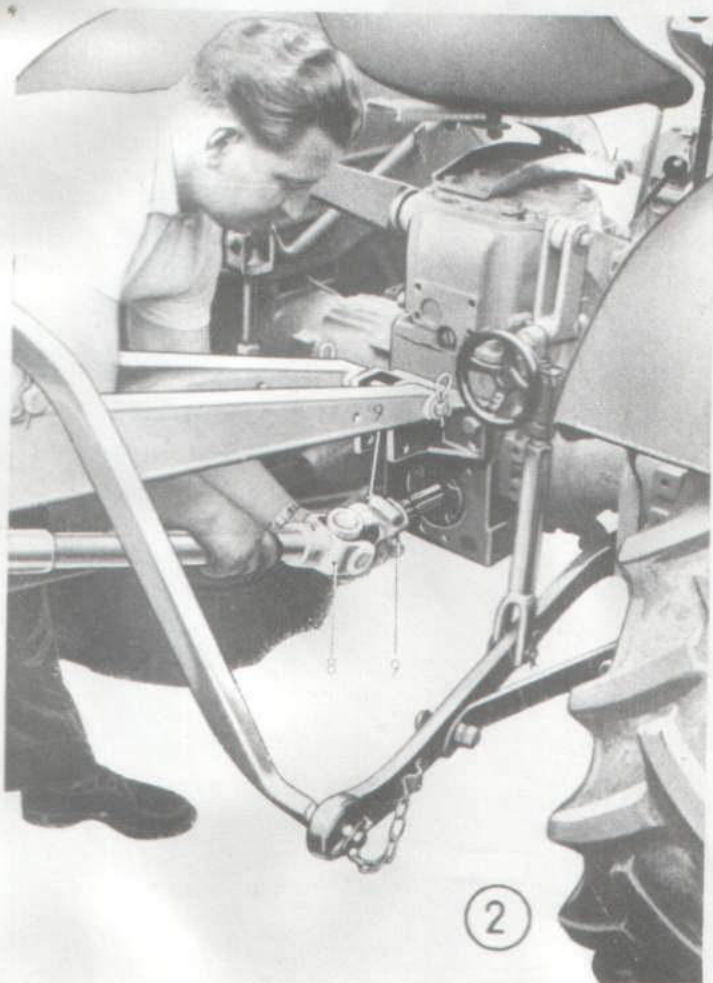

Fig. 2 - Attachment of drive shaft to power take-off shaft
Attach drive shaft (8) to tractor power take-off shaft, pushing in pins (9) and slipping the drive shaft on the power take-off shaft until the pins engage audibly, see Fig. 2.
10. Under normal conditions bracket (7) rests on front bearings on beams (3).